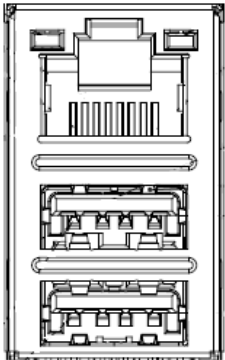

Figure 3-40: USB 2.0 and RJ45 LAN Connector
- CN Location:** See Figure 3-40